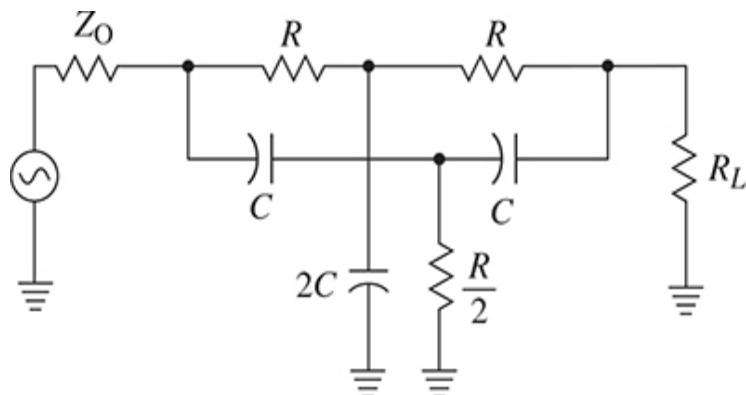

Figure 9.10 The popular twin-T RC notch filter.
One of the best RC filters is the notch filter shown in Fig. 9.10. It is called a twin-T or parallel-T. If you look carefully at the filter, you can see that it is a low-pass filter and a high-pass filter in parallel. The passbands overlap and define an attenuation notch. The twin-T is designed to null out one particular frequency and pass those above and below the center frequency. It has been widely used to notch out 60 Hz ac power line interference.
- Calculate $2C$ and $R/2$. These values are required as Fig. 9.10 indicates.